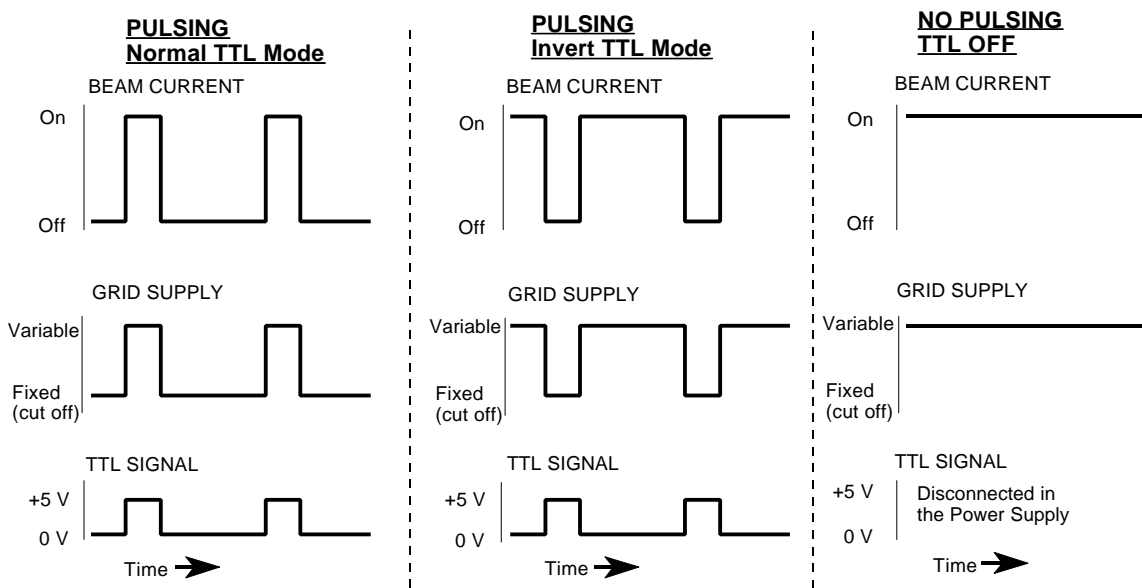

Figure 4.7.6 Normal and inverted pulsing TTL Signal, alternating Fixed and Variable Grid Supplies, and Beam Current Response
- a. The **INVERT/NORMAL** toggle switch reverses the TTL logic and so provides a method of inverting the pulse output. (See Figure 4.7.6)